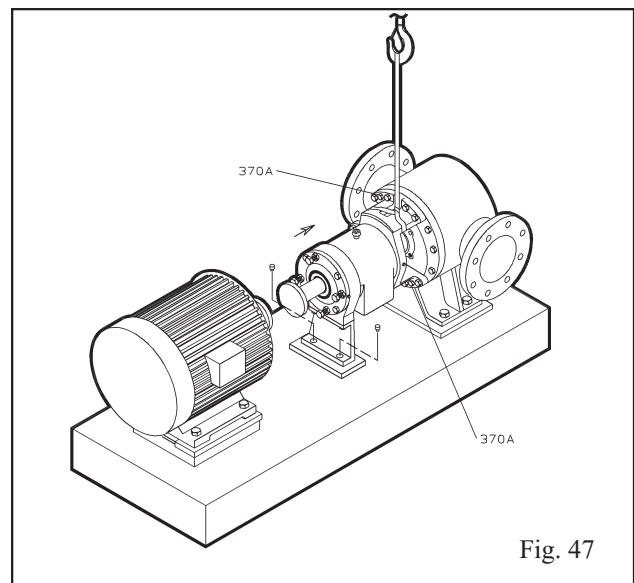

Fig. 47
1. Adjust rotor (101) so gap between rear rotor shroud vanes and seal chamber (184) is approximately 0.5 mm (.02 in.).
2. Place casing gasket (351) on seal chamber (184).
3. Place sling from hoist around frame (228) (Fig. 47).
4. On a flat surface (baseplate or sturdy workbench), install back pull-out assembly into casing (100). Ensure casing foot (131), if supplied, and frame foot (241) are flat on the surface.
5. Hand tighten four equally spaced casing bolts (370A). Seat back pull-out into casing (100) - Do not tighten bolts yet.
8. Set rotor (101) axial clearance as described in Preventive Maintenance section.
13. Rotate shaft (122) by hand to assure free rotation.